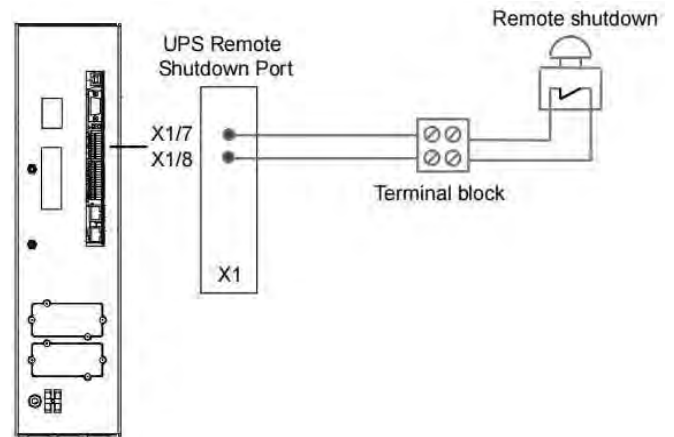

Figure 8.3 Remote emergency stop cabling
The EPO facility comprises a normally-closed circuit connected between terminal X3/3 and X3/4 on the communications interface board (see *Figure 8.3*).
2. Connect the cable as shown in *Figure 8.3*.